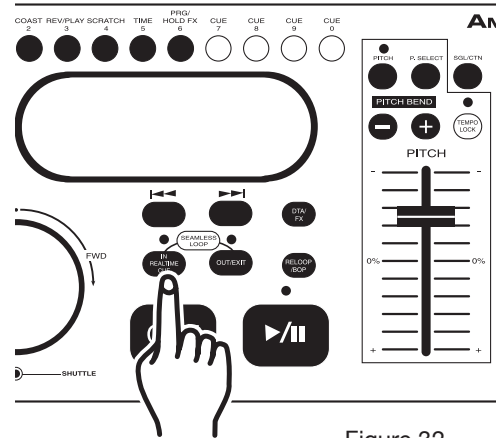

Figure 32
- 2) Press the IN REAL-TIME CUE BUTTON (26) at the point you want your BOP to take place (Figure 32).